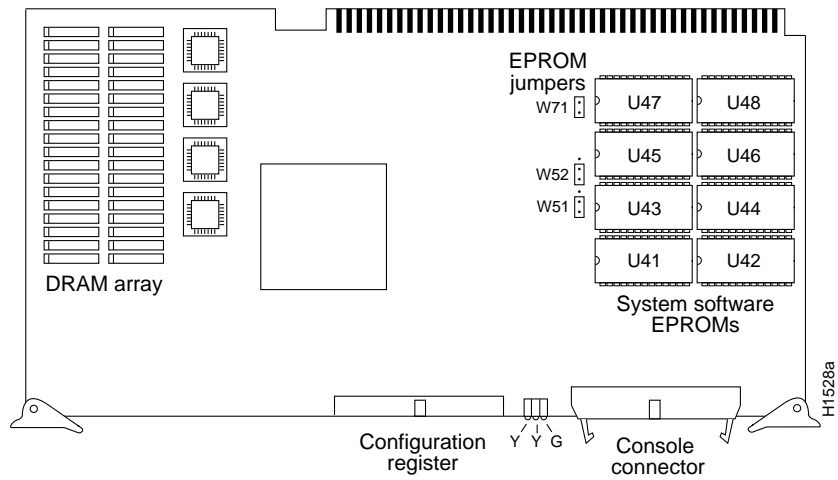

Figure 5-18 CSC/4 Processor Card—Component-Side View
- CSC/4 processor card, Figure 5-18